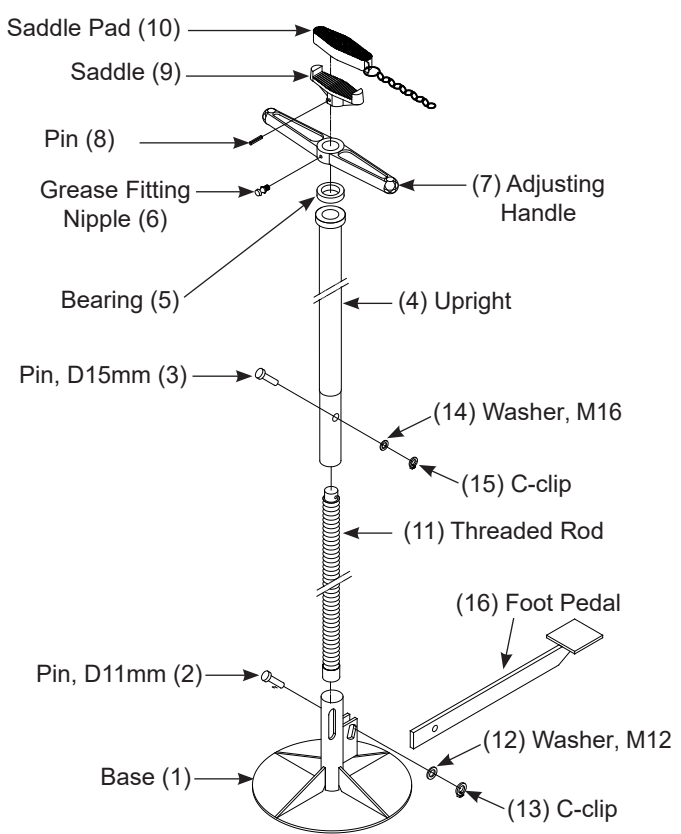

Figure 2 - BH5715 Nomenclature
- b. For Model BH5715 (see Fig. 2):
- i) Insert upright assembly onto the base (1) with slot in upright facing foot pedal mount and secure using the larger pin, washer & c-clip (3, 14 & 15).
- ii) Insert foot pedal (16) into slot on base (1) and secure with remaining pin, washer and c-clip (2, 12 & 13).